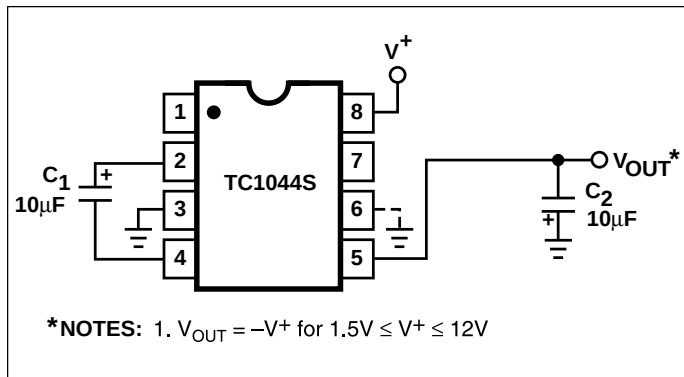
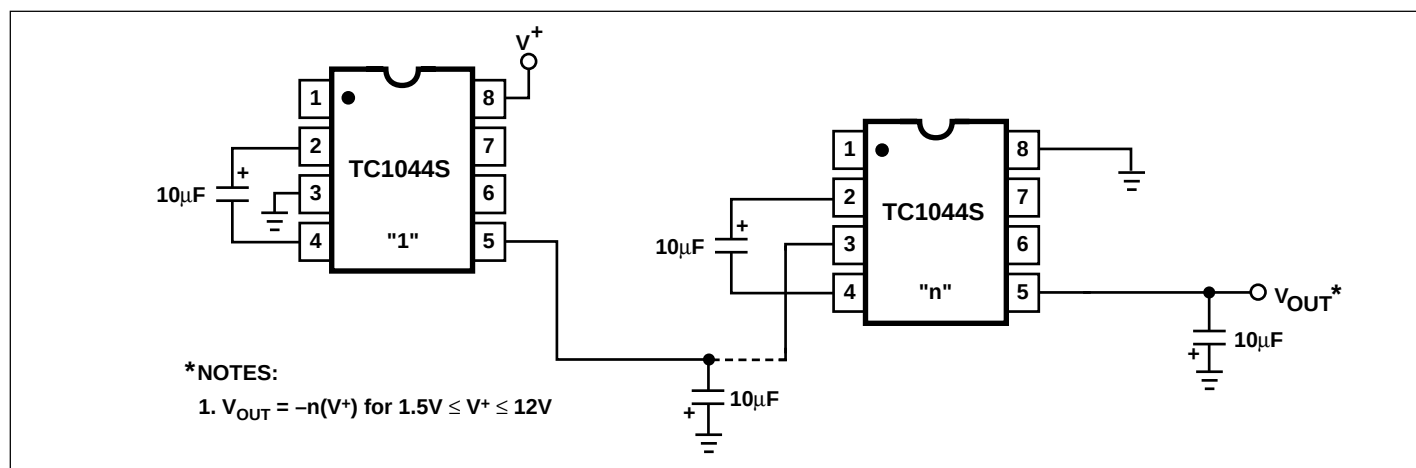
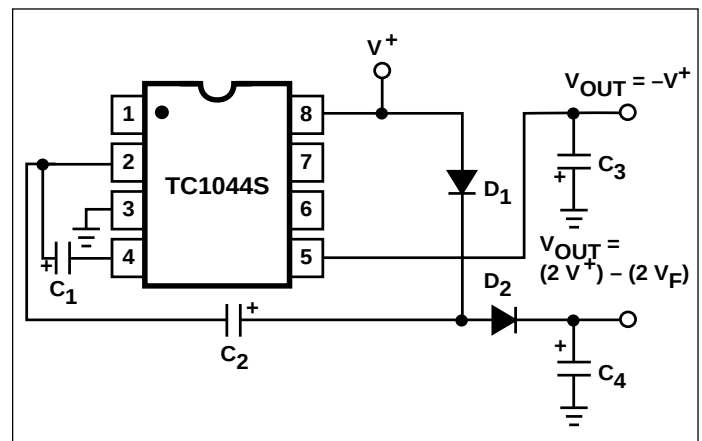
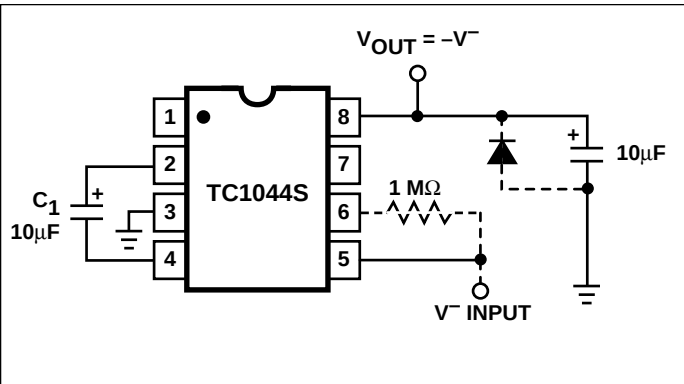

Figure 3. Simple Negative Converter
Figure 5. Increased Output Voltage by Cascading Devices
Figure 9. Combined Negative Converter and Positive Multiplier
Figure 10. Positive Voltage Conversion
Figure 3 shows typical connections to provide a negative supply where a positive supply is available. A similar scheme may be employed for supply voltages anywhere in the operating range of +1.5V to +12V, keeping in mind that pin 6 (LV) is tied to the supply negative (GND) only for supply voltages below 3.5V.
The output characteristics of the circuit in Figure 3 are those of a nearly ideal voltage source in series with 70Ω . Thus, for a load current of $-10mA$ and a supply voltage of +5V, the output voltage would be $-4.3V$.
The TC1044S may be cascaded as shown (Figure 5) to produce larger negative multiplication of the initial supply voltage. However, due to the finite efficiency of each device, the practical limit is 10 devices for light loads. The output voltage is defined by:
Figure 9 combines the functions shown in Figures 3 and 8 to provide negative voltage conversion and positive voltage multiplication simultaneously. This approach would be, for example, suitable for generating +9V and -5V from an existing +5V supply. In this instance, capacitors C_1 and C_3 perform the pump and reservoir functions, respectively, for the generation of the negative voltage, while capacitors C_2 and C_4 are pump and reservoir, respectively, for the multiplied positive voltage. There is a penalty in this configuration which combines both functions, however, in that the source impedances of the generated supplies will be somewhat higher due to the finite impedance of the common charge pump driver at pin 2 of the device.
Since the switches that allow the charge pumping operation are bidirectional, the charge transfer can be performed backwards as easily as forwards. Figure 10 shows a TC1044S transforming -5V to +5V (or +5V to +10V, etc.). The only problem here is that the internal clock and switch-drive section will not operate until some positive voltage has been generated. An initial inefficient pump, as shown in Figure 9, could be used to start this circuit up, after which it
will bypass the other (D_1 and D_2 in Figure 9 would never turn on), or else the diode and resistor shown dotted in Figure 10 can be used to "force" the internal regulator on.
The same bidirectional characteristics used in Figure 10 can also be used to split a higher supply in half, as shown in Figure 11. The combined load will be evenly shared between the two sides. Once again, a high value resistor to the LV pin ensures start-up. Because the switches share the load in parallel, the output impedance is much lower than in the standard circuits, and higher currents can be drawn from the device. By using this circuit, and then the circuit of Figure 5, +15V can be converted (via +7.5V and -7.5V) to a nominal -15V, though with rather high series resistance ($\sim 250\Omega$).